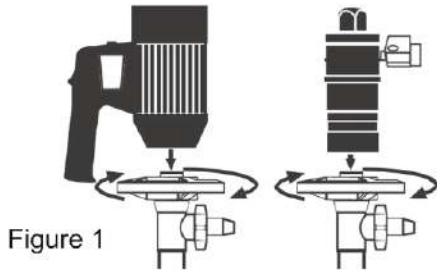

Figure 1
3. Couple the motor to the pump tube by using the HandWheel. (See figure 1).